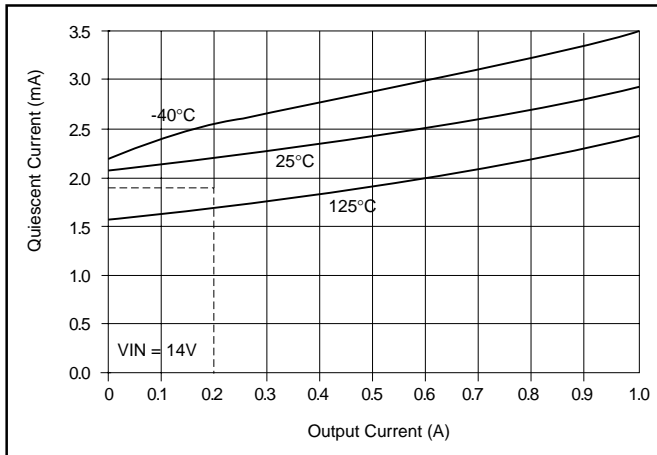

Figure 2. Quiescent Current over Temperature for CS8121
**Step 1:** Determine  $I_Q$  from the data sheet performance curve (Figure 2). Find the maximum output current on the graph's X axis. Locate the intersecting point on the curve whose temperature is the same or lower than the application's  $T_A(\text{max})$ . In this case,  $I_Q = 2.25\text{mA}$  for  $I_{OUT} = 200\text{mA}$  at  $T_A(\text{max}) = 25^{\circ}\text{C}$  and  $I_Q = 1.7\text{mA}$  @  $T_A(\text{max}) = 125^{\circ}\text{C}$ . For  $85^{\circ}\text{C}$ , the value of  $I_Q = 2.25\text{mA}$  is chosen as the worst case possibility.
With these new requirements,  $I_Q(\text{typ})$  remains at approximately 2.25mA (Figure 2). Power dissipation is higher due to the higher input voltage.